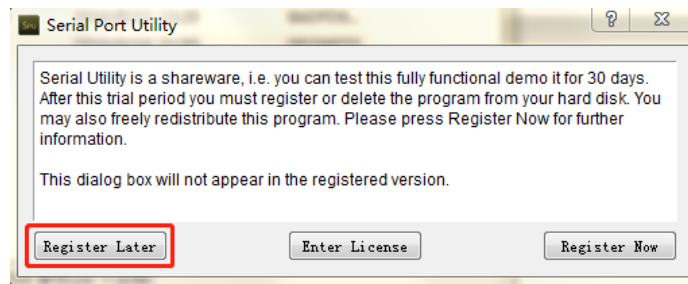

Figure 4-7 Register Window of Serial Port Utility
- 3) If SerialPortUtility.exe is running for the first time on a PC, a register window will pop up, just ignore it by click 'Register Later' button; (Show as Figure 4-7)